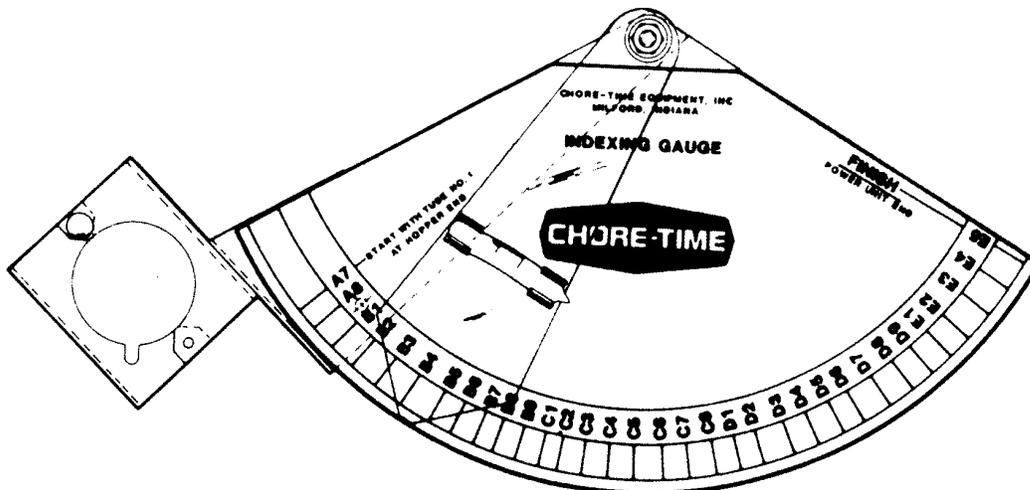

**Figure 36. Tube Clamp Location**
9. Continue to set each Auger Tube in the feeder line. After each tube is set, tighten the clamp on the bell end toward the hopper. The clamps should be positioned as shown in **Figure 36**. Do not crush the tubes by overtightening the clamps.
Position the clamps on the tube joints, as shown in **Figure 36.**